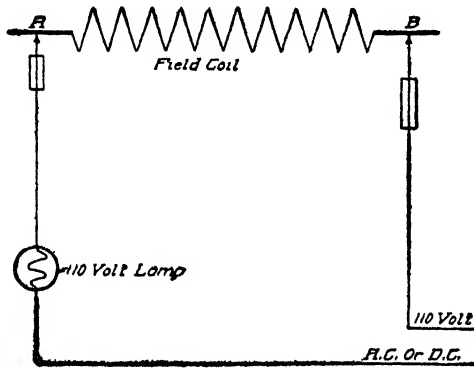
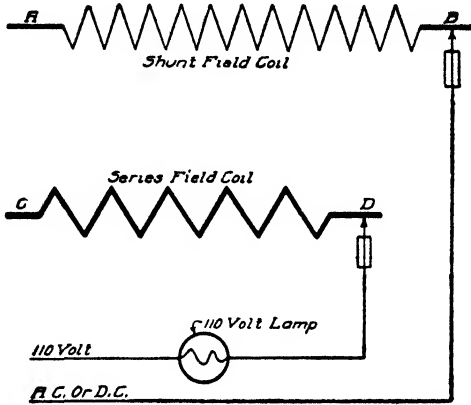
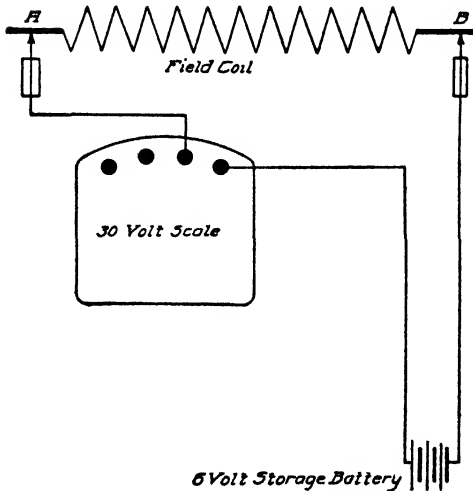

Fig. 65. Diagram for Locating Open Circuits in Field Coils with Lamp-Testing Set
Fig 67. Diagram for Testing Short-Circuits between Windings
Fig. 68. Voltmeter Test Diagram for Open-Circuited Field
placed as shown in Fig. 65. By placing one point on each terminal of the particular winding to be tested, failure of the lamp to light will indicate that the coil is open-circuited, as the wire of the coil will afford a path for the current, unless broken. The fact that the lamp may not light to full brilliance in some of these coil tests is no indication of trouble, as the difference is simply due to the additional resistance represented by the coil itself. In case an open-circuited coil is found, the only remedy is to return it to the manufacturer for repair or replacement.
*Short-Circuits between Windings.* To test for short-circuits between windings not normally connected, as for example the shunt and series winding of a field coil, place one test point on the terminal of one winding and the other test point on the terminal of the other field winding, as shown in Fig. 67. If the lamp lights, it will indicate a short-circuit between the windings. The field coils can also be tested with a voltmeter, the 30-volt scale being used in connection with a 6-volt storage battery for this purpose, Fig. 68. As all lighting generators have more than one winding
*Voltmeter Field Tests.* The method of employing the voltmeter for making field tests, shown in Figs. 68 and 69, is as follows:
To test for an open-circuited field, connect up as shown in Fig. 68. The positive terminal of the voltmeter is connected to the
If, instead of touching the free ends of the wire together, they are placed on the terminals of a high resistance, the voltmeter reading will naturally be much less. In other words, the value of the voltmeter reading will always depend upon the amount of resistance offered by the coil or other circuit that is being tested. When there is no circuit, as with the free ends held apart in the hands, there will be no indication on the voltmeter scale. An open-circuited coil will accordingly be indicated by a zero reading of the voltmeter when the two free ends, or points, are placed upon the terminals of the coil, Fig. 68. If, on the other hand, the voltmeter reading is nearly half of that of the battery voltage, the coil is in good condition. This test corresponds to that with the lamp-testing set using the 110-volt current, illustrated in Fig. 65. It is a method which also permits one coil to be checked against another of the same kind, as the readings given by the two coils should be approximately the same. Where neither a 110-volt current nor a portable voltmeter are available, these tests may be carried out with the aid of a 6-volt bulb in connection with the storage battery, as shown for the voltmeter tests. In this case, the lamp will light brightly when the free ends of the wires are brought together, but it will dim in proportion to the amount of extra resistance added to the circuit, as represented by the coil under test. While not so accurate as the tests with the voltmeter, comparative tests are also possible with the low-voltage lamp, a very perceptible difference in the lighting of the lamp indicating a greatly increased resistance. When using current from a storage battery for testing, care must be taken to have the points of the test set, or ends of the wire, clean and bright, and to make good, firm contact. If necessary, places on the machine at which the test points are to be applied should